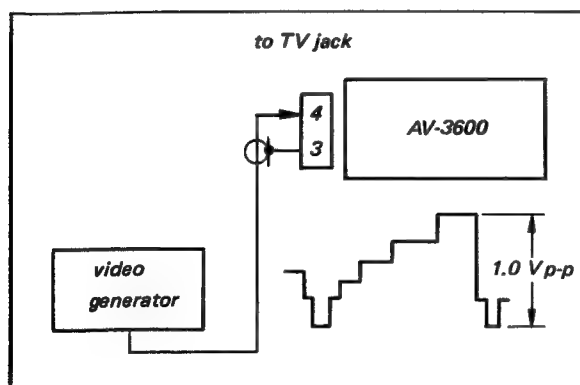

Fig. 5-1a. Maximum deviation adjustment set-up
Set-up: See Fig. 5-1a.
9. Apply a stairstep signal of 1.0 volt (p-p) to the TV jack. See Fig. 5-1a.